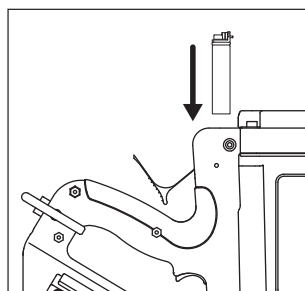

Figure 11
2. Insert fuel cell, base first, into tool with metering valve pointed toward the tool's red gas valve (see Figure 11).